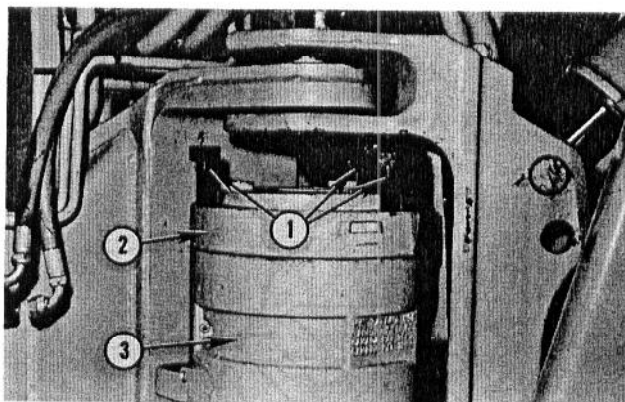

Fig. 27 — Special Tool "Pusher Bolts" (Tool No. 7236) Installed in Top Plate
7. Install the three special tool "pusher bolts" (tool No. 7236) into threaded holes in top plate as shown in Fig. 27. Thread these bolts into top plate
8. Install the three special tool "pusher bolts" (tool No. 7236) into threaded holes in top plate (over dowel pins ... see Fig. 27). Tighten these "pusher bolts" EVENLY to separate top plate from barrel and shaft. Remove the three dowel pins from barrel.